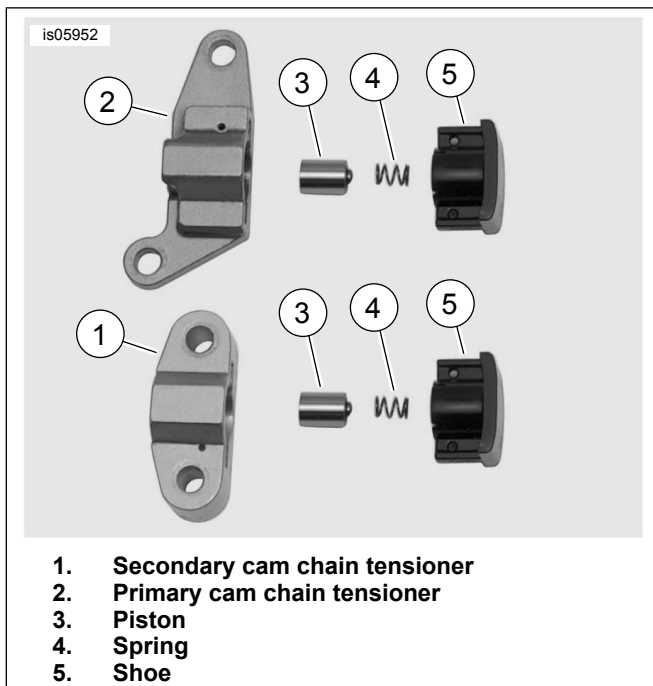

Figure 6. Primary and Secondary Cam Chain Tensioners
17. See Figure 6. Be sure the primary and secondary cam chain tensioners are assembled as shown. If assembled incorrectly, the tensioners will not function properly. Install the secondary cam chain tensioner. Tighten the fasteners to 10.2–13.6 N·m (90–120 in-lbs). Remove the locking clip from the tensioner.